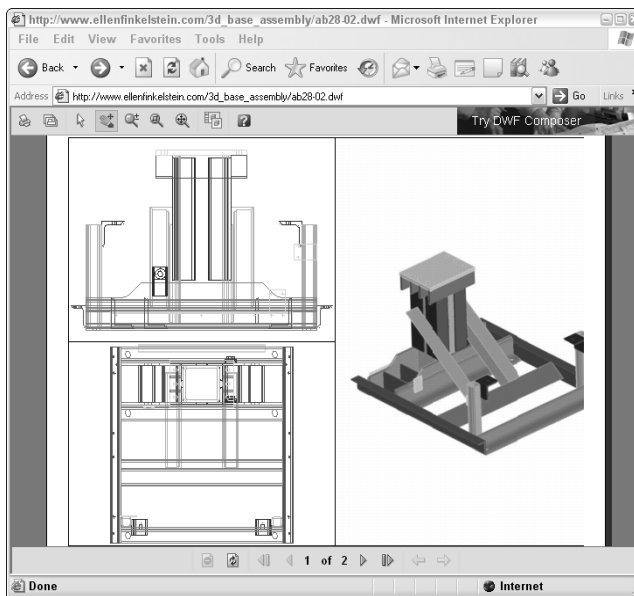

**Figure 28-13:** You can use the Autodesk DWF Viewer in Internet Explorer.
- ♦ **As an ActiveX component**, Autodesk DWF Viewer functions within Microsoft Internet Explorer, as shown in Figure 28-13. Use the reader within Internet Explorer when you've posted DWF files on a Web site. When you enter the URL in the browser, the DWF file appears. (The ActiveX doesn't work in the Firefox Web browser. Instead, the browser offers to download the file or open it, using your local DWF Viewer software.)